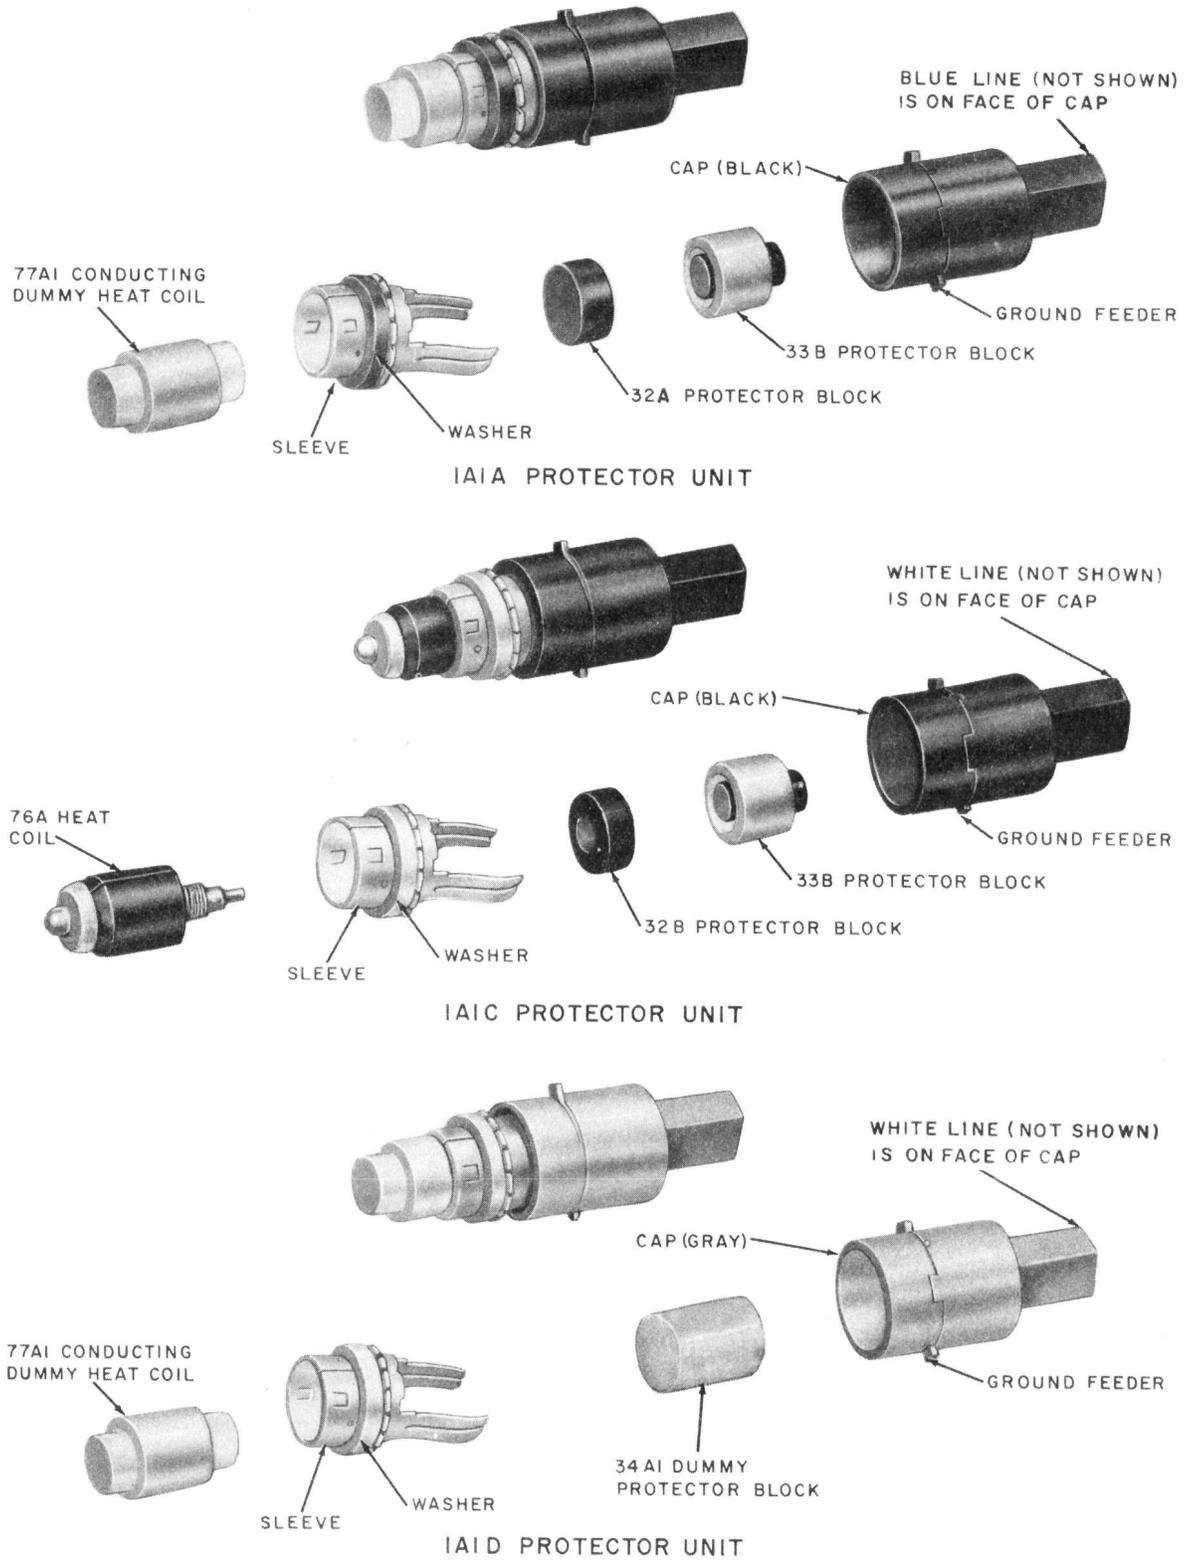

Fig. 6—IAIA, IAIC, IAID Protector Unit Assemblies
- 3.01** Protector units (Fig. 6) are not supplied with the 300-type connector and should be ordered separately. The types of protection provided are shown in Table A. Protector units used for standard circuits on the 300-type connector are equipped with either black or gray colored caps as shown in Table A. For circuits other than standard, colored caps are available to indicate various type circuits (see Table A).